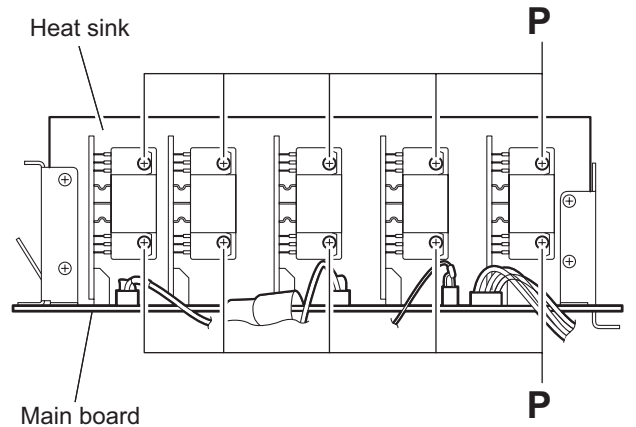

Fig.12
3.10 Removing the heat sink (See Figs.12 and 13)
- (1) Remove the ten screws **P** attaching the heat sink. (See Fig.12)
3.11 Removing the center amp. board, front amp. boards (L/R) and rear amp. boards (L/R) (See Figs.12 and 14)